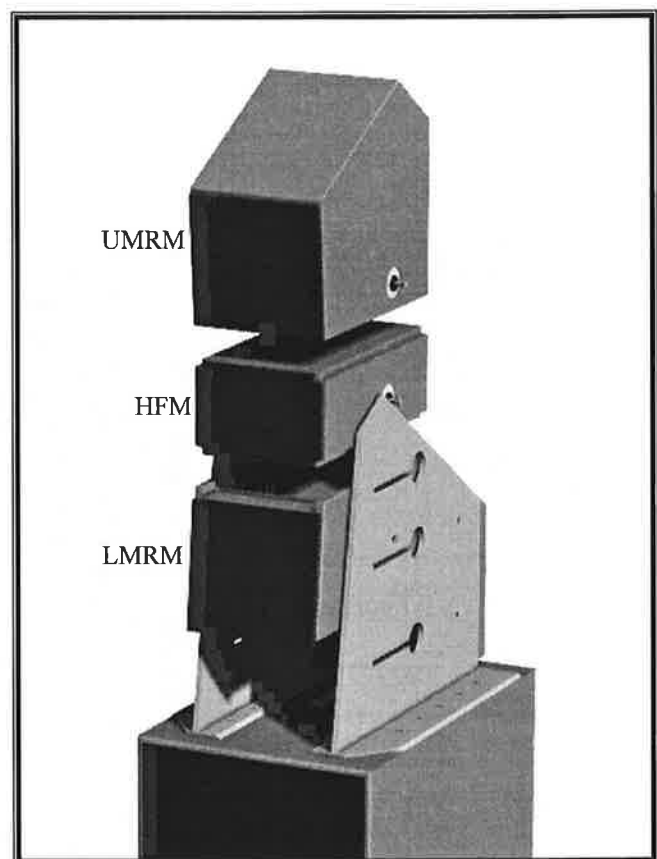

FIGURE 13 INSTALLING THE UPPER ARRAY MODULES
- With the brass cones pointing down, carefully lower LMRM between the timing blades and set it on top of the woofer enclosure (see Figure 13).